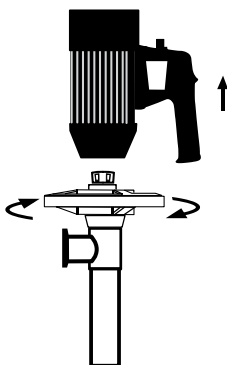

Figure 2
2. For a more thorough cleaning remove the motor from the pump tube by loosening the hand wheel (see Figure 2).